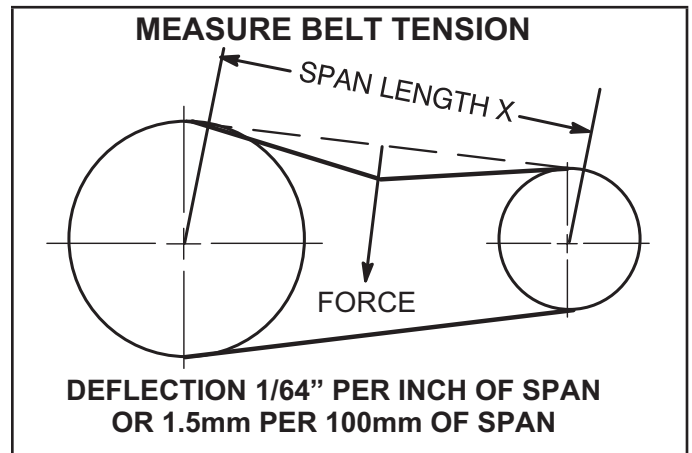

FIGURE 14
- 1 - Measure span length X. See FIGURE 14.
- 2 - Apply perpendicular force to center of span (X) with enough pressure to deflect belt 1/64" for every inch of span length or 1.5mm per 100mm of span length.